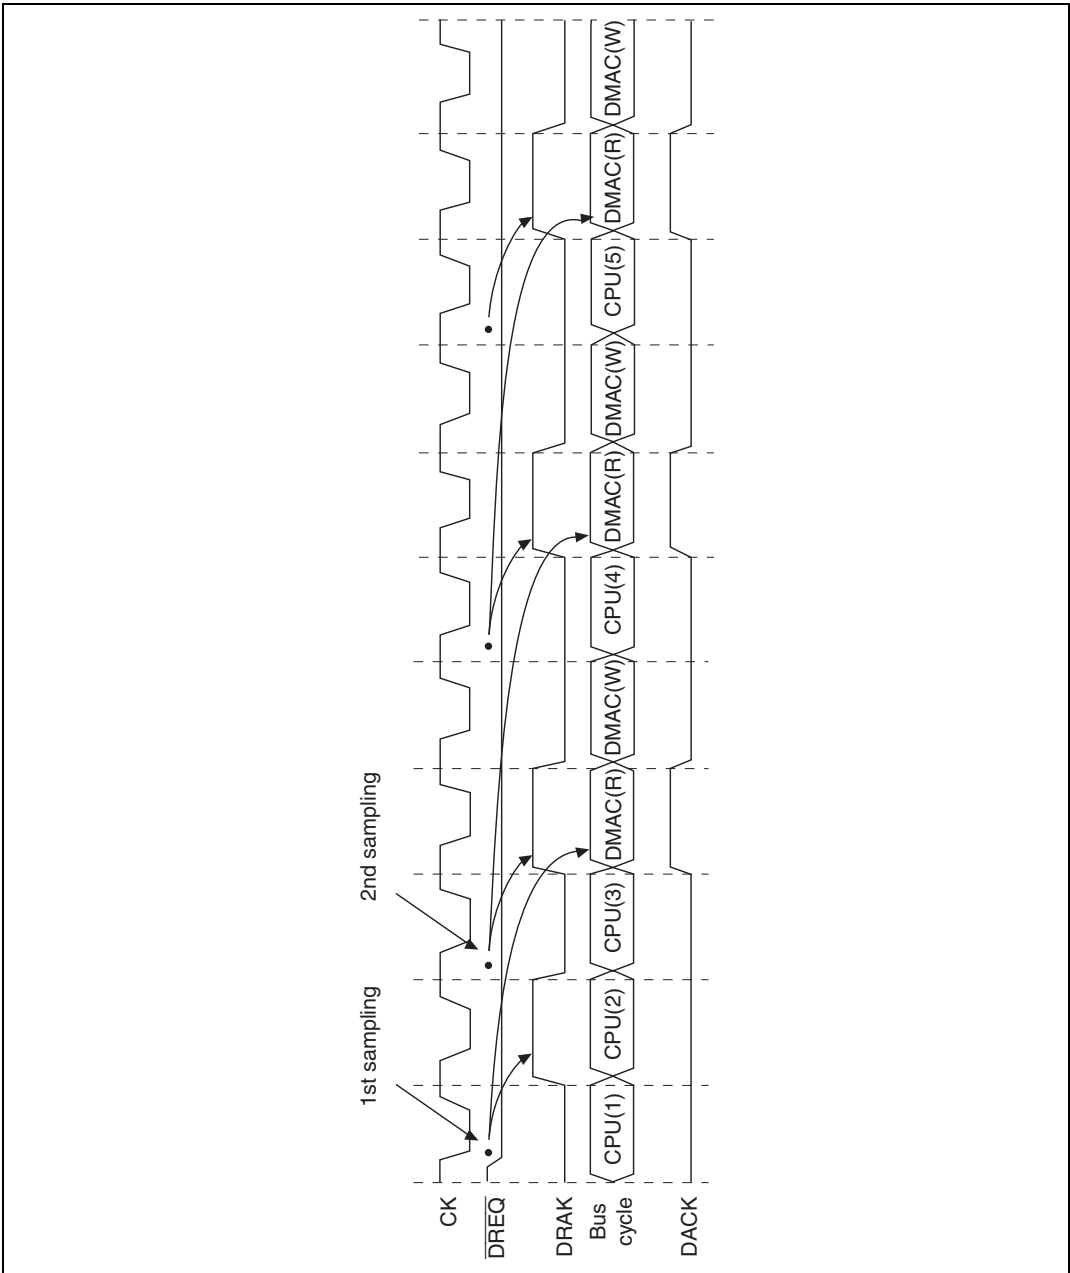
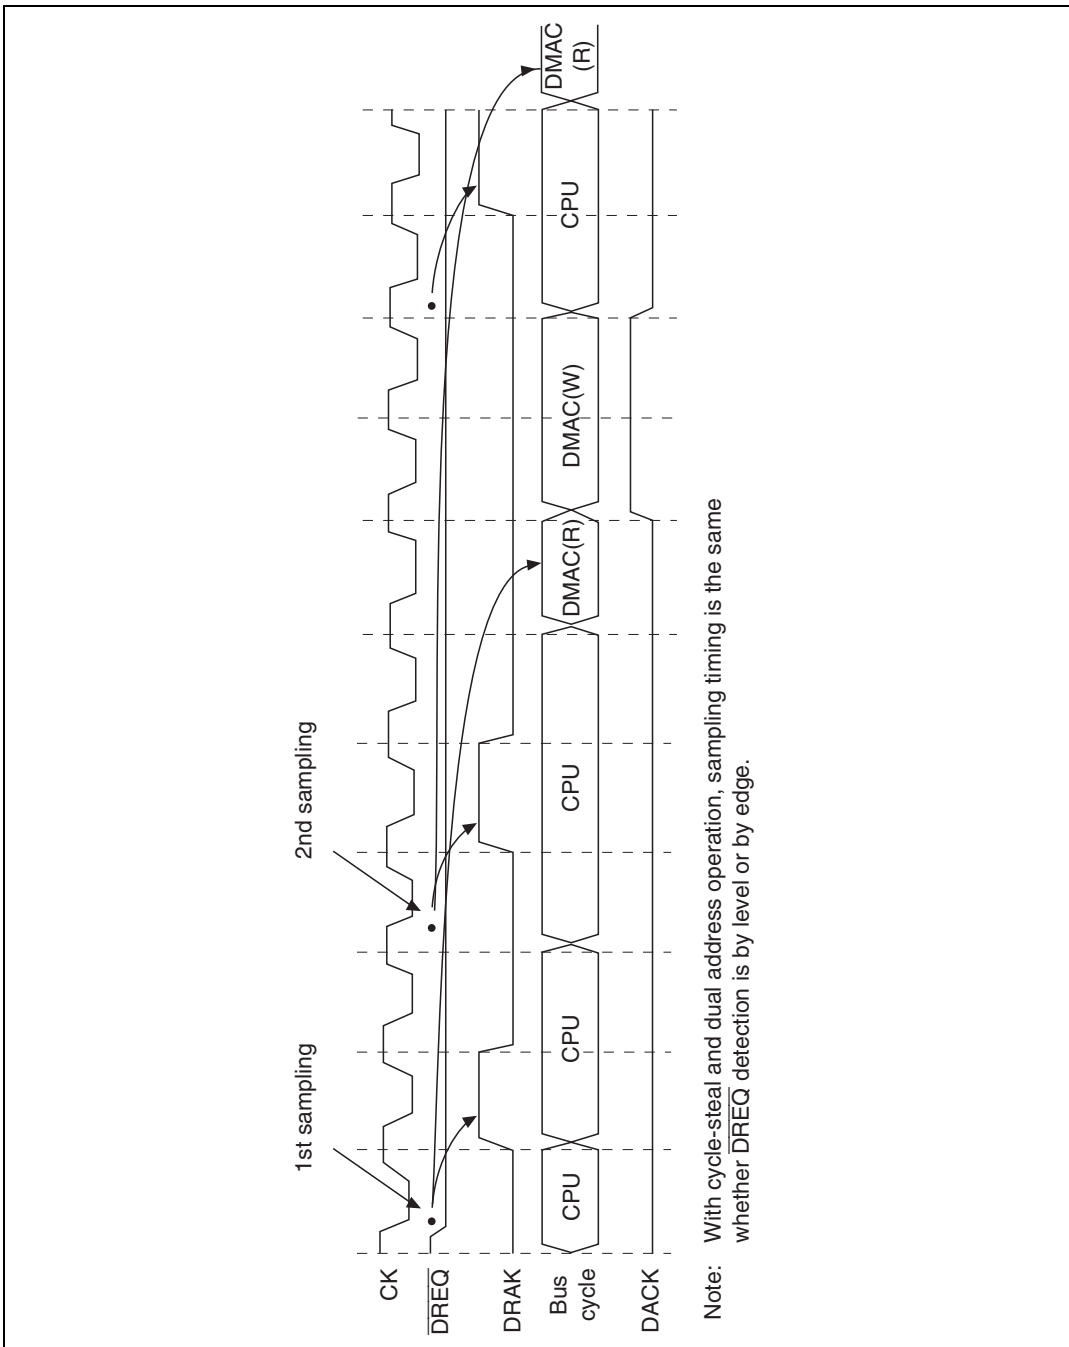

Figure 9.9 Cycle Steal, Dual Address and Level Detection (Fastest Operation)
Figure 9.10 Cycle Steal, Dual Address and Level Detection (Normal Operation)
For example, DMAC transfer begins (figure 9.9), at the earliest, three cycles from the first sampling timing. The second sampling begins at the start of the transfer one bus cycle prior to the start of the DMAC transfer initiated by the first sampling (i.e., from the start of the CPU(3) transfer). At this point, if $\overline{\text{DREQ}}$ detection has not occurred, sampling is executed every cycle thereafter.
As in figure 9.10, whatever cycle the CPU transfer cycle is, the next sampling begins from the start of the transfer one bus cycle before the DMAC transfer begins.
Figure 9.9 shows an example of output during DACK read and figure 9.10 an example of output during DACK write.